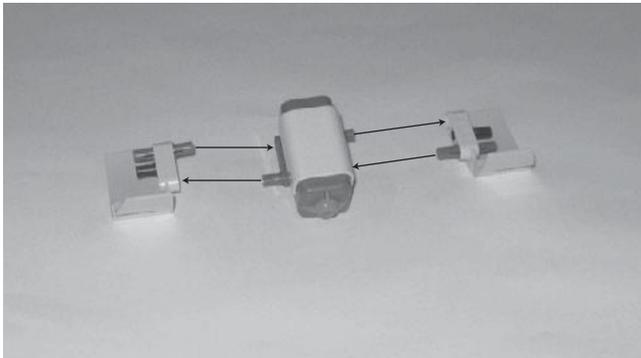

Figure 11.9
Step 2: Place the touch sensor in an upright position between the two screens and connect the screens to the sensor, as shown in Figure 11.9.